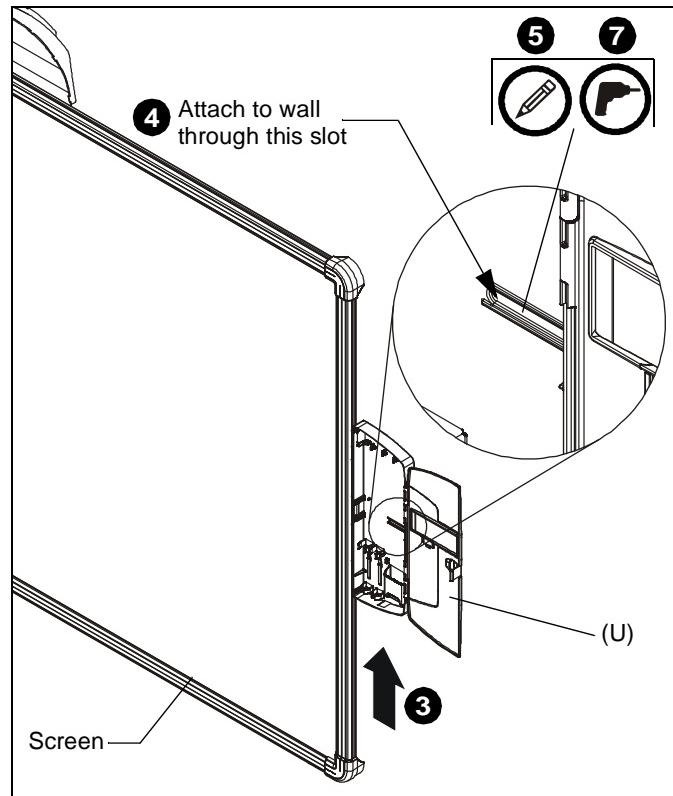

Figure 10
1. Open door on control panel assembly (U).
2. Insert edges of control panel assembly (U) into groove in screen frame, with tab placed behind screen. (See Figure 10)
3. Slide control panel assembly up along side of screen assembly to the desired height. (See Figure 10)
4. Determine attachment location on wall. (See Figure 10)
5. Mark attachment hole through slot in control panel assembly (U). (See Figure 10)
7. Drill one pilot hole (see Table 1 for size) at location marked in Step 5 (See Figure 10) and follow fastener information (appropriate for wall type) located in Table 1.